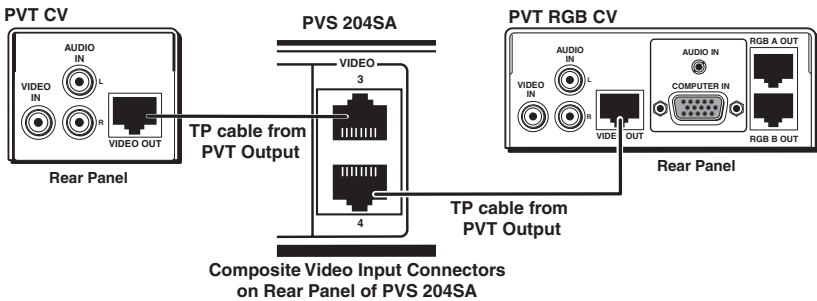

Figure 2-8 — Connecting the PVT composite video outputs to the PVS 204SA switcher
- ③ **Composite video/audio output (CV and RGB CV models)** — For composite video and audio output, using TP cable, connect this RJ-45 female output port to one of the two composite video RJ-45 input connectors (labeled 3 and 4), on the rear panel of the PVS 204SA switcher (see figure 2-8).